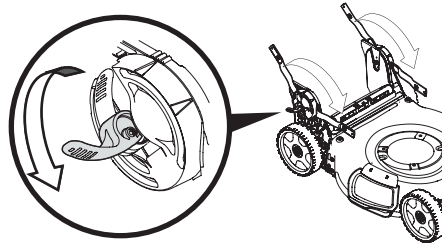

Figure 11
- Unlock the two handle release levers. See inset, Figure 11.